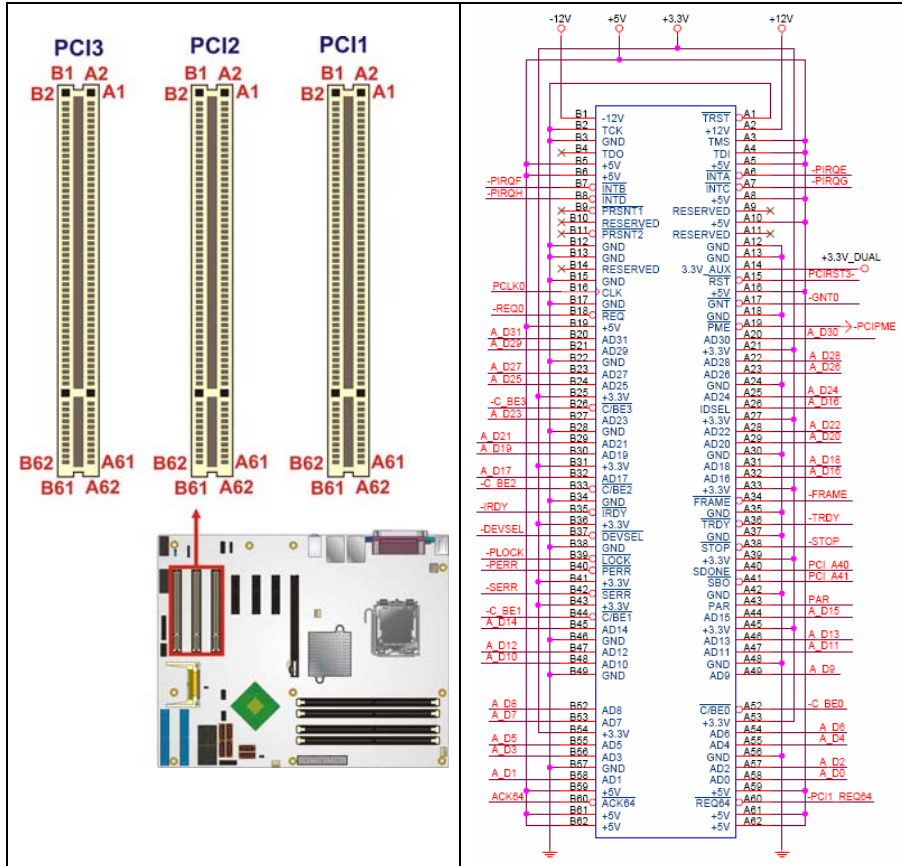

Figure 4-13: PCI Slot Location
- CN Location:** See **Figure 4-13**